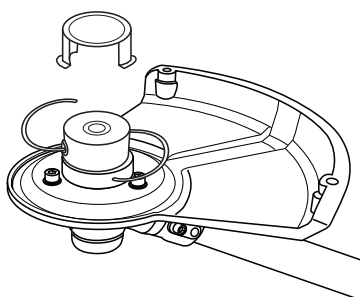

Fig. 4
1. Align the lower pole (6) in the guard (3) and slide the guard into the place (Figs. 4, 5).